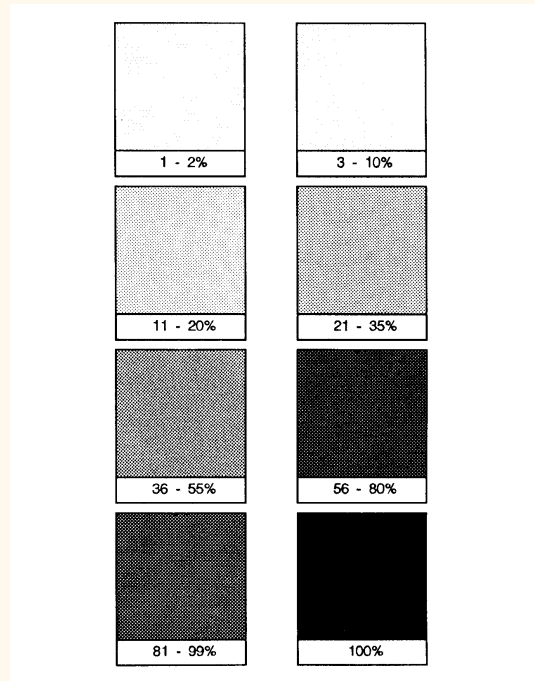

Figure 100. Shading Patterns
3. For *fill_type* 10, the *option1* value specifies the level of shading. The level is specified as a percentage. The device uses at least nine predefined levels of shading equally divided between 0 and 100%. The default is 50%. Each shading level is the percentage of ink used of the current pen color, to be used as texture. If transparency is ON, the destination ink color is also preserved in the (100-option1) part (see the instruction *TR, Transparency Mode*). If a “curtain” effect is perceived in the fill area, use the *PP, Pixel Placement* instruction with a parameter of 1. *Figure 100* shows various levels of shading and the specified percentage.